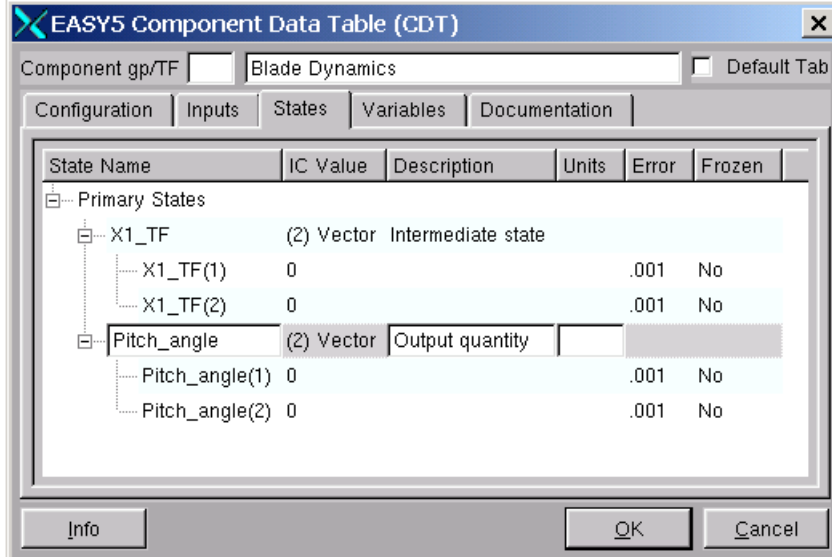

Figure 19 Sample Data Table of a Vectorized Component
An example of a dimensioned component is shown in Figure 19. The transfer function component (TF) data table is shown (with the "States" tab visible) with the dimension parameter "Channels (N)" changed from a default value of 0 (scalar) to 2. Notice that all inputs and outputs are defined by two element vectors.